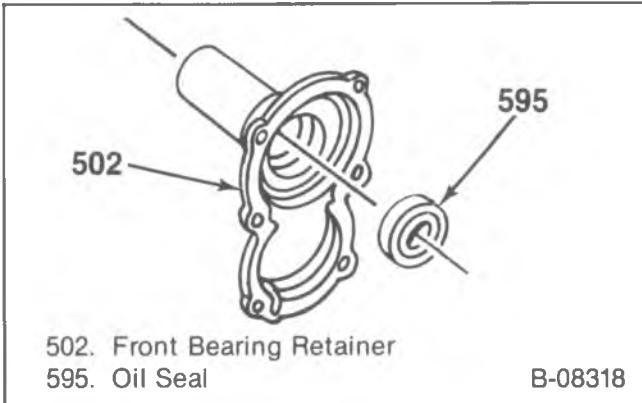

Figure 101—Front Bearing Retainer and the Oil Seal
MAIN DRIVE GEAR BEARING RETAINER**Remove or Disconnect (Figure 101)**
1. Seal (595).
2. Gasket material from flange of retainer (502).
**Inspect (Figure 101)**
**Install or Connect (Figure 101)****Tool Required:**